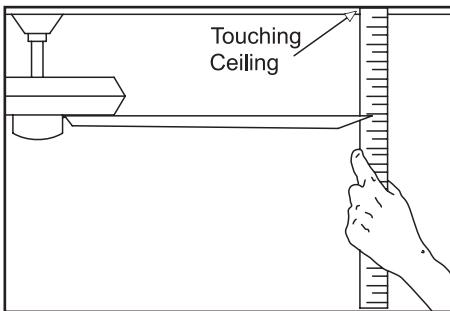

Figure 15
2. Most fan wobble problems are caused when blade levels are unequal. Check this level by selecting a point on the ceiling above the tip of one of the blades. Measure from a point on the center of each blade to the point on the ceiling. Measure this distance as shown in Figure 15. Rotate the fan until the next blade is positioned for measurement. Repeat for each blade. Measurement deviations should be within $1/8"$. Run the fan for 10 minutes.